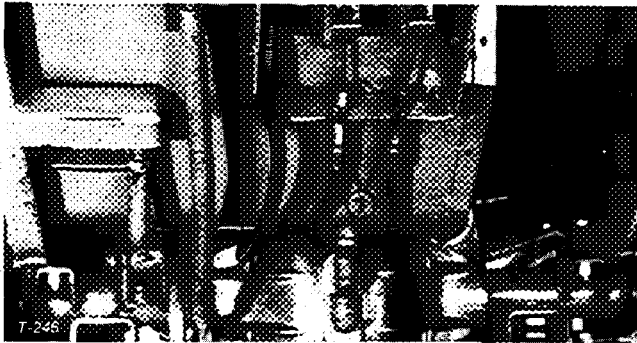

Figure 23
2. To reduce free travel of brake pedals — tighten the brakes — loosen front nut on threaded end of brake cable (Fig. 23). Then tighten rear nut to move cable backward until brake pedals have 1/2 to 1 inch (13 mm to 25 mm) of free travel. Tighten front nut after brakes are adjusted correctly.